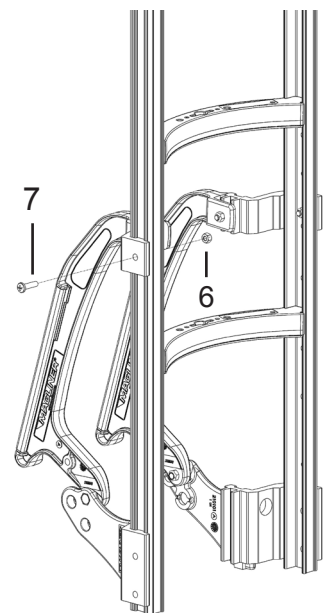

Figure 3
- Insert one 1/4"-20 x 1" long pan head machine screw through the adapter bracket and frame side rail (see Figure 3). \*Use light blows with hammer to pierce 1/4"-20 screws through the red stripe. Secure with one 1/4"-20 lock nut and tighten bolts and screws.